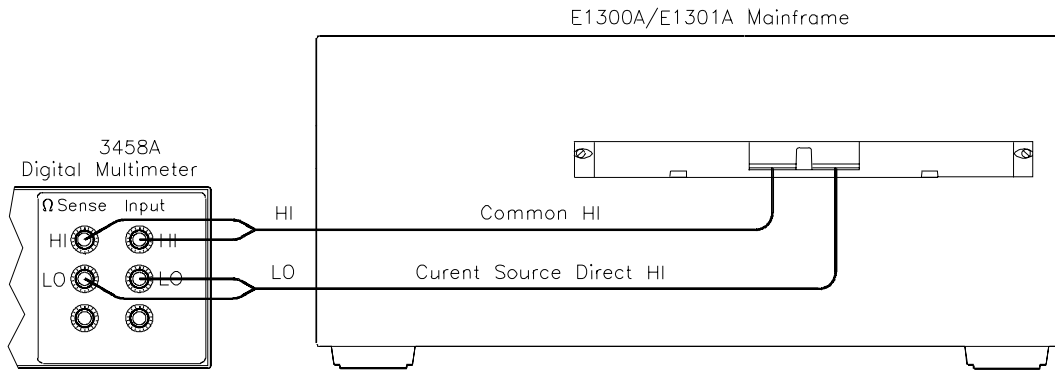

Figure 2-6. Ch 08-15 and 91-92 HI Measurements Connections
- Connect DMM leads as shown in Figure 2-6